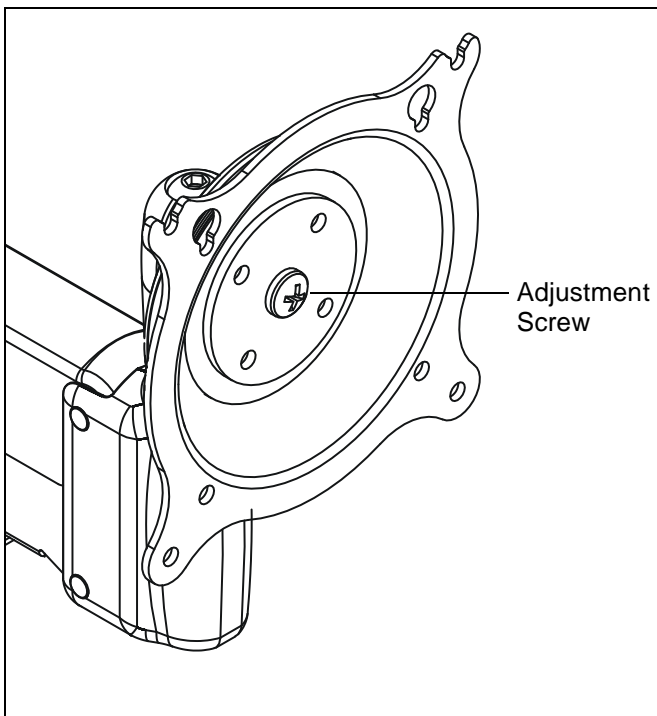

Figure 9
2. Using Phillips screwdriver, slightly loosen or tighten adjustment screw as necessary (See Figure 9).